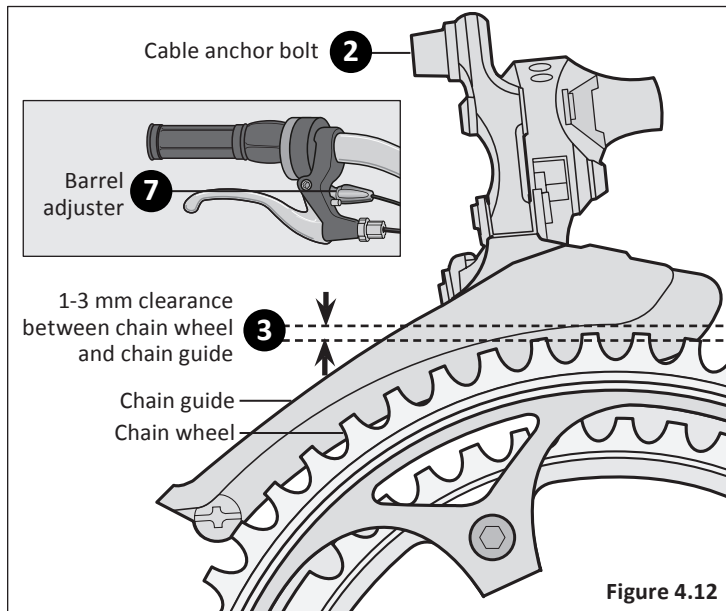

Figure 4.12
- 2 Disconnect the front derailleur cable from the cable anchor bolt. **Figure 4.12**